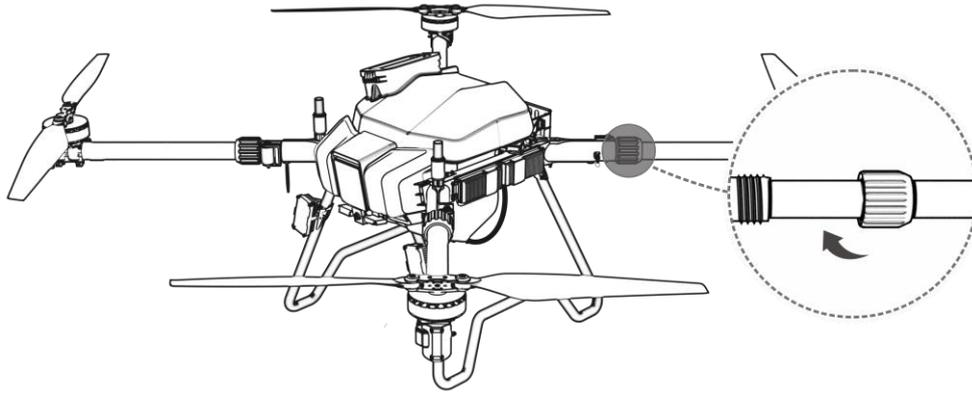

Figure 1-33 Arm Clamp
**Step 3:** Unfold the arms. See Figure 1-33.